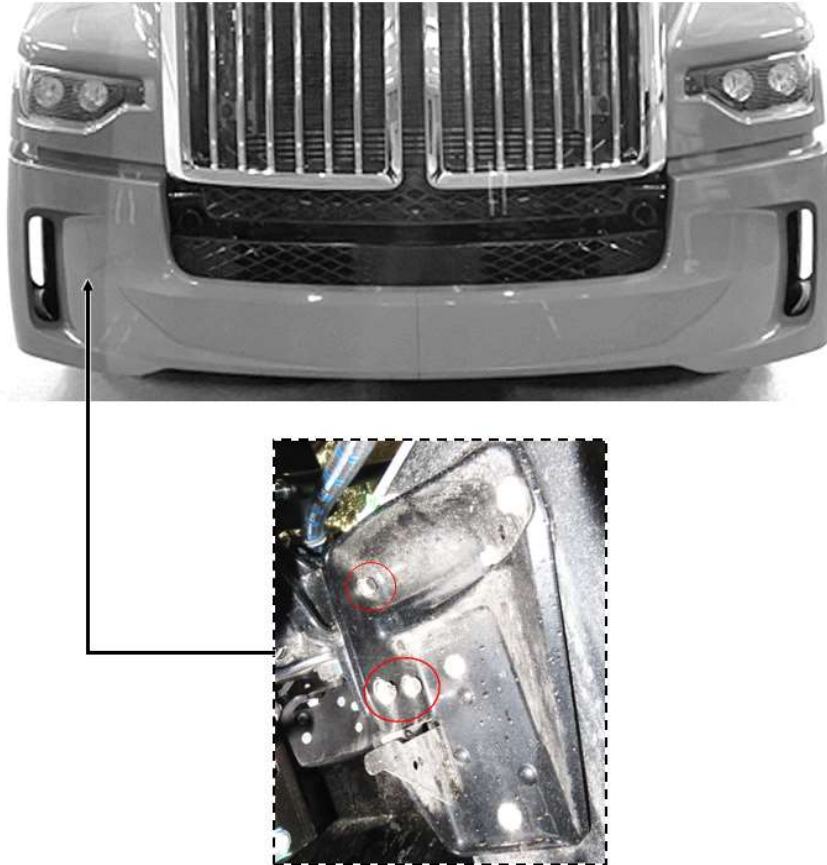

Figure 1a: OEM Front Bumper Fasteners
2. Remove the OEM Front Bumper by removing the circled bolts shown in Figure 1a.